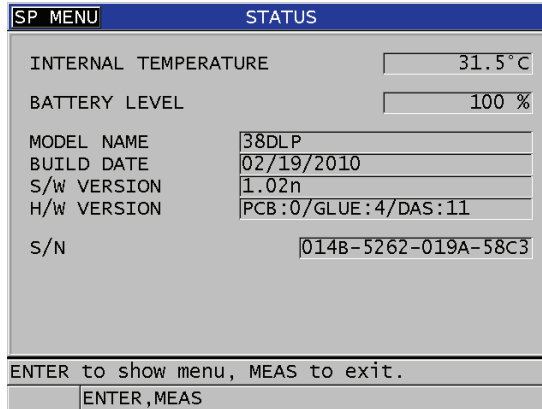

Figure 15-5 Example of the STATUS screen
2. In the menu, select **STATUS** (see Figure 15-5 on page 269).